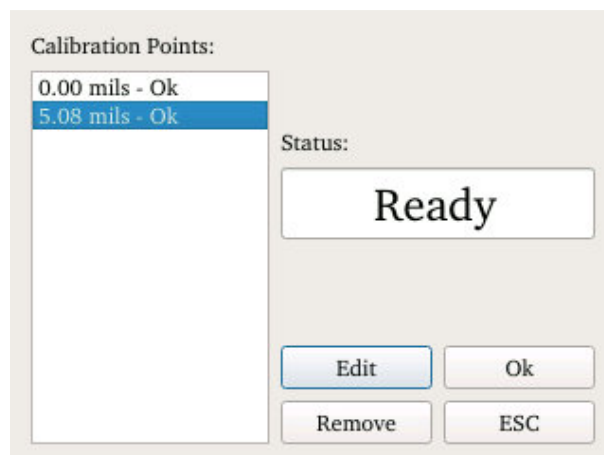

Figure 18: Select calibration points
- Select a calibration point and then remove this calibration point using the button "Remove" or edit this calibration point using the button "Edit", see Figure 18.